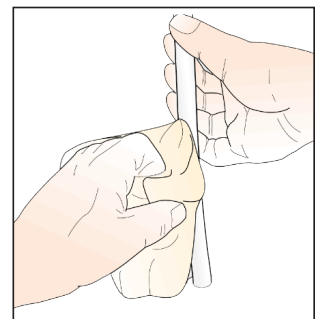

Fig. 4
- 9 Clean the exterior of the milk tube using a soft cloth. (Fig. 4)